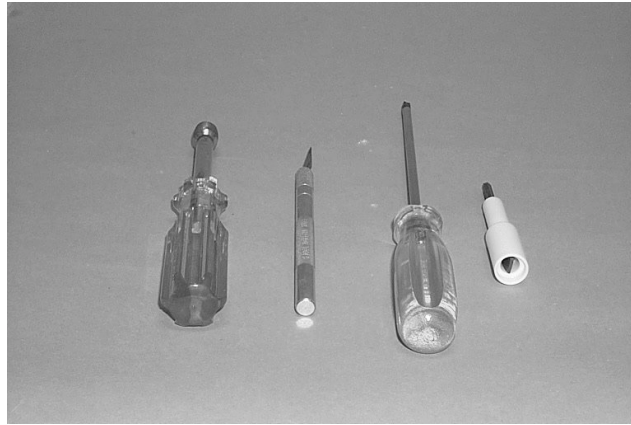

Figure 1
1. Tools needed are #1 Philips screwdriver minimum 6" blade, 11/32 nut driver, x-acto knife or razor blade and tool provided with unit. See Fig. 1